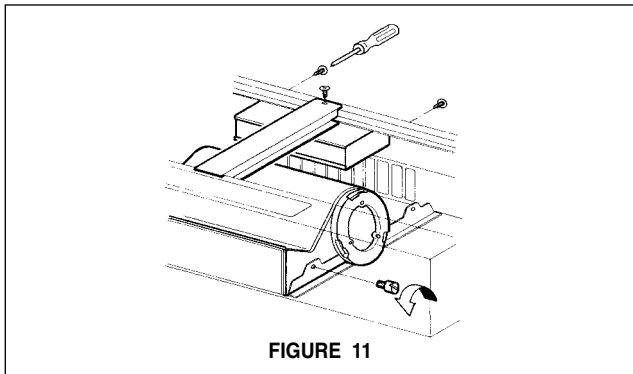

FIGURE 11
4. Remove the central support and control box by removing the screws indicated in **FIGURE 11**. It is not necessary to remove the blower to perform this operation.
1. Remove both grease filters, the central support and the control box. Remove the two thumb screws on either side of the blower and remove the blower from the mounting guides as indicated in **FIGURE 11**.